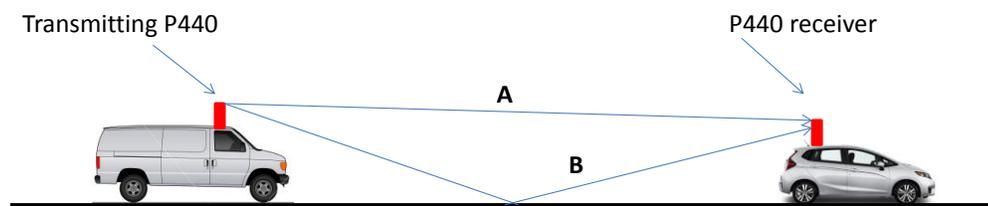
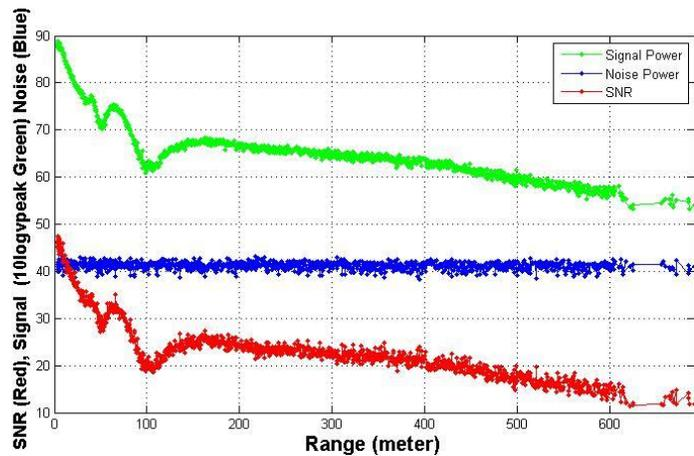

Fig. 6-2: Transmitted signal A arrives at the P440 receiver and is destructively interfered by signal B
Fig. 6-3: Data collected from configuration shown in Figure 6-2
- Variations due to compression. When units are operating “too” closely to each other, the strength of the transmitting unit will be so great that receivers of other units will compress. When a receiver compresses, the bias of the reported range measurements will change by as much as a few centimeters. Region 1 (FCC) units are affected when they are within 2 meters of each other, Region 2 (EU) units are affected at ranges up to 5 meters, and High Power units will be affected out to 25 meters. In these cases, the ranges reported will tend to overstate the distance by a few millimeters and increase to several centimeters as the separation distance decreases. This can be dealt with in two ways. First, a P440 will measure the signal strength of the received signal and will report when it is close to operating in compression and thereby warn the user. Second, the changes due to compression are repeatable and can be characterized. Time Domain is in the middle of a characterization process and expects to include an automatic compensation in a future release.
- Variations due to Fresnel cancellation effects. Fresnel cancellation occurs when the direct path signal is partially cancelled by a reflection from the ground. **Figure 6-2** illustrates this issue.
In this example, the transmitted signal B arrives at the P440 receiver $\frac{1}{2}$ wavelength after signal A arrives. As a result, signal A will experience destructive interference by signal B. The received signal will not only have a lower SNR but it will also change the characteristic shape of the received signal. This unexpected change will increase the standard deviation and change the bias. These changes have been quantified. The data shown in **Figure 2-4** was collected using the configuration shown in **Figure 6-2**. (For convenience, **Figure 2-4** is repeated below as **Figure 6-3**.) You will notice that there are two points in **Figure 6-3** at which the Fresnel cancellation is apparent, 60 and 100 meters. At these locations, the standard deviation (precision) increased to 1.5 and 3.0 cm and the bias decreased by 1.5 and 3.5 cm, respectively.